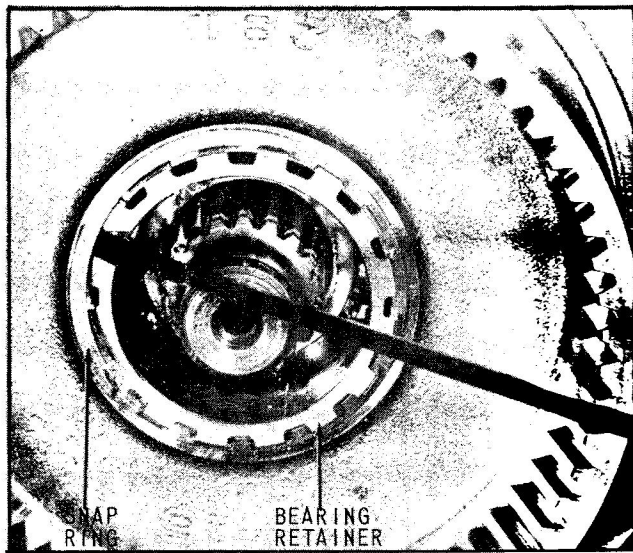
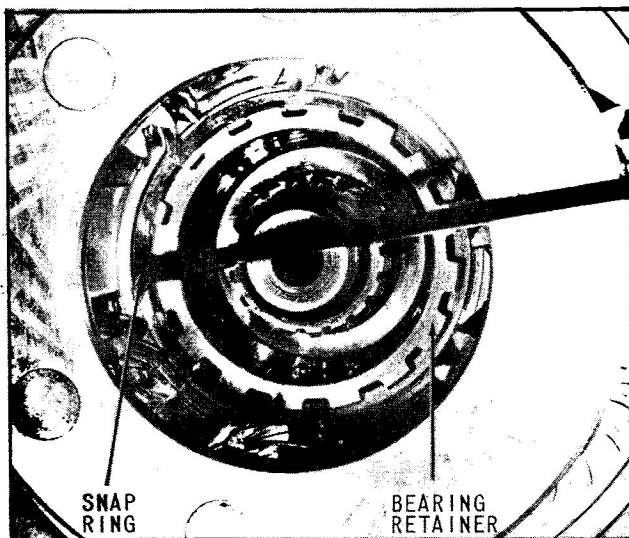

Fig. 27 Remove Ring Gear Hub Snap Ring (3 to 1 Ratio)
Fig. 28 Remove Pinion Cage Snap Ring (2 to 1 Ratio)
4. Remove snap ring from bearing retainer and remove ring gear and ring gear hub on 3 to 1 ratio units, (Fig. 27) or remove pinion cage assembly on 2 to 1 ratio units, (Fig. 28).